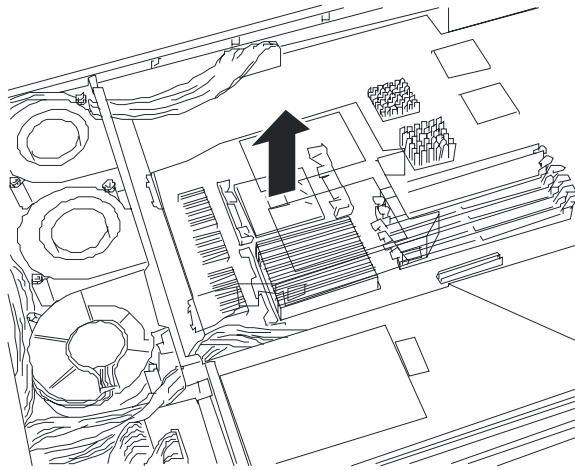

Figure 4-9. Removing the CPU Air Duct
5. Remove the CPU air duct from the processors and the anti-dust sheet from the empty processor socket. See Figure 4-9
4. Remove the CPU air duct. See Figure 4-9.